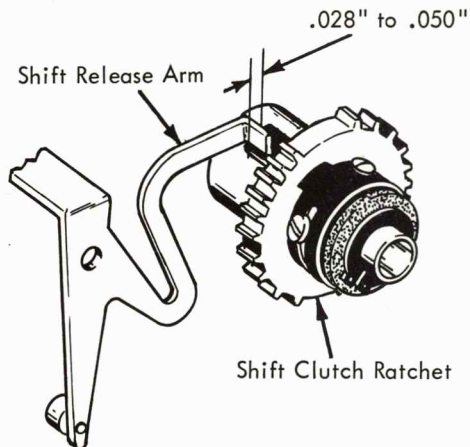

FIGURE 29.1 Shift Clutch Ratchet Adjustment
- 2.1 Shift Clutch Ratchet Adjustment (Late) (Fig. 29.1) - Adjust the shift clutch ratchet to satisfy the following condition. With the machine turned off and the shift cam detented, the shift clutch ratchet will rotate .028" to .050" when the shift release arm releases the ratchet. The rotation can be observed relative to the shift release arm and the shift cam stop. Be sure to loosen the set screw in the ratchet before adjusting. Remove play from the shift ratchet in a clockwise direction. Note: The C-7 cam must be removed to make the above adjustment.